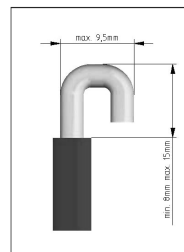

Figure 16
**Caution:** in case of connecting the conductor with diameter of 16 sq. mm and less then terminal of the conductor should be shaped like it is show in Figure 16.